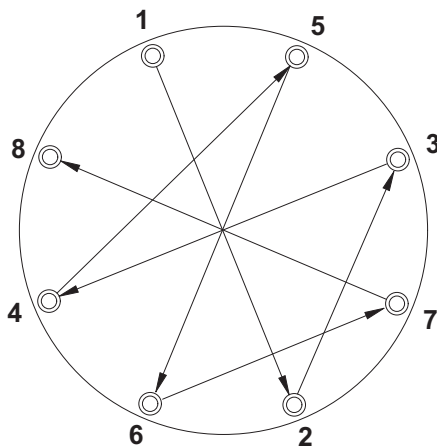
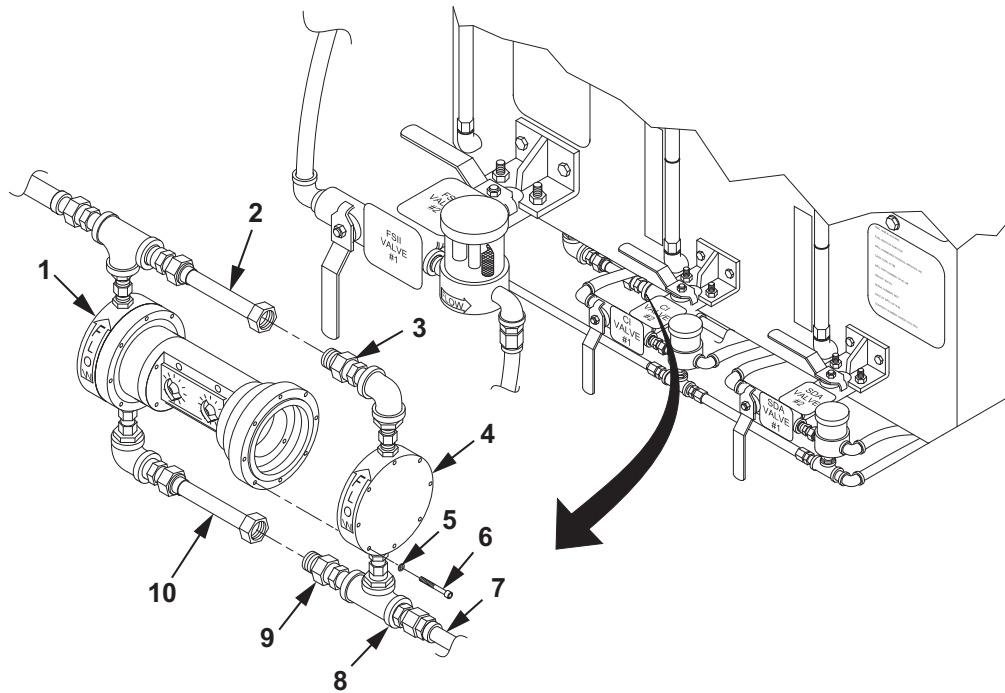

Figure 4. Torque Sequence Diagram.
Figure 5. FSII Pump Suction Check Valves Removal.
8. Position fluid end cap assembly (Figure 5, Item 4) on FSII pump (Figure 5, Item 1) ensuring proper alignment with tubes (Figure 5, Item 2, 10).
9. Apply antiseize compound to eight screws (Figure 5, Item 6).
10. Install eight new lockwashers (Figure 5, Item 5) and screws (Figure 5, Item 6) through fluid end cap assembly (Figure 5, Item 4).
11. Hand tighten eight screws (Figure 5, Item 6).
12. Using torque wrench, screwdriver bit and torque sequence diagram (Figure 4), torque eight screws (Figure 5, Item 6) to 40 in. lb (4.52 N•m).
13. Connect suction tube (Figure 5, Item 10) on tube adapter (Figure 5, Item 9). Tighten suction tube (Figure 5, Item 10).
14. Connect discharge tube (Figure 5, Item 2) on tube adapter (Figure 5, Item 3). Tighten discharge tube (Figure 5, Item 2).
15. If required, connect tube assembly (Figure 5, Item 7) on tube adapter (Figure 5, Item 8).